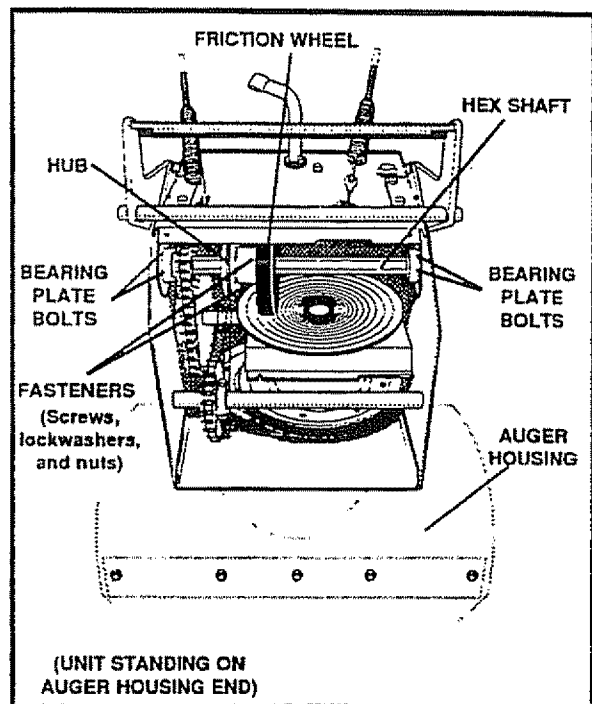

FIG. 34
- Stand the snow thrower up on the auger housing end (See Fig. 34).
- Remove the three (3) fasteners securing the friction wheel to the hub (See Fig. 34), and set fasteners aside.
- Position new friction wheel onto hub. See Fig. 34.